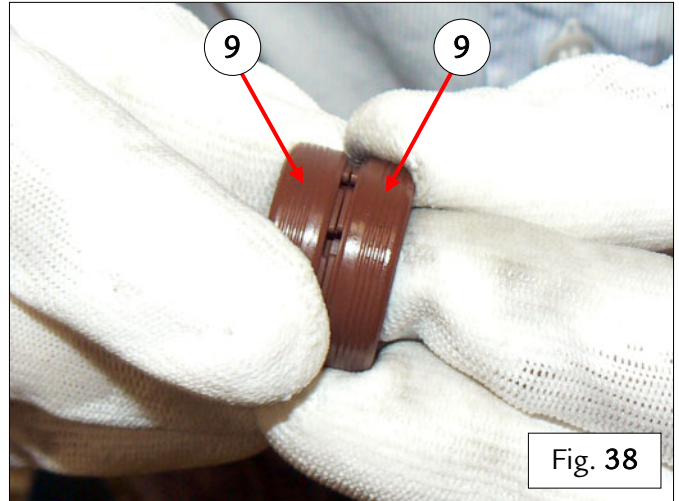

Fig. 38
- The image aside shows the two oil pump spindle seals (9) assembled together – Fig. 38.